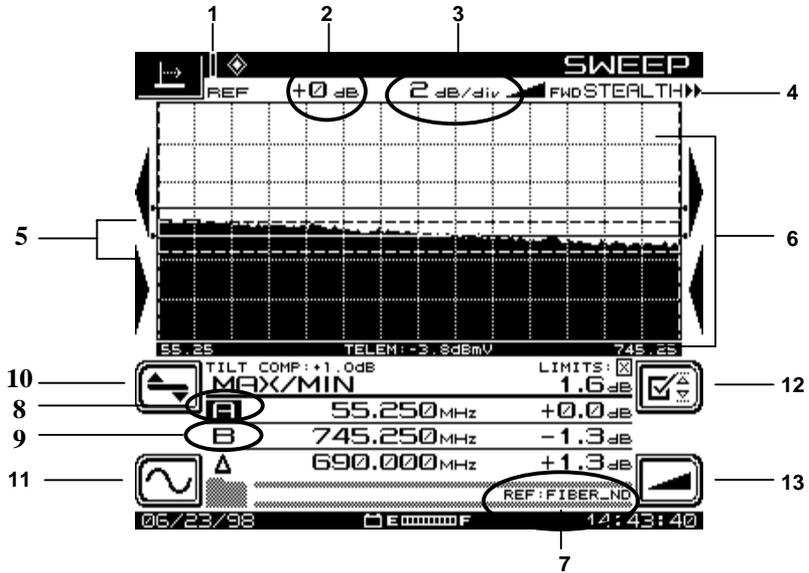

Fig. 4-10 The SWEEP Screen
- **Show Horizontal Markers:** The horizontal markers continuously track maximum and minimum values in the area of the graph between the vertical markers (see Fig. 4-10). Use the up and down diamond keys to display the markers.
The Sweep function has four operating modes, Stealth, Transmit, Loopback, and Sweepless. The current sweep mode is indicated in the upper right-hand corner of the screen (see Fig. 4-10). The Stealth mode allows sweep insertion points to be injected in vacant spectrum areas. The Loopback mode enables you to perform a rough frequency response, gain, and loss test on active and passive devices in the field. The Sweepless mode only measures actual system carriers. Any system carrier can be used as a data point, even scrambled or digital carriers. In either mode, a previously stored response can be used as a reference to the current measurement. Sweep references are selected in the File setup menu (see “Sweep References” in Chapter 11, page 201). The Transmit mode operates the same as the Scan mode with these exceptions: sweep telemetry is transmitted, sweep points are injected, and sweep point levels are displayed (see “Scan Measurements” in Chapter 6, page 115).
You can get to the SWEEP screen (see Fig. 4-10) through the NAVIGATOR or by pressing the SWEEP measurement mode key under lower right corner of the screen.
Call up the frequency screen from the SWEEP screen (Fig. 4-10) by pressing the soft key in the lower left corner.
-  Call up the level screen from the SWEEP screen (Fig. 4-10) by pressing the soft key above the Frequency Submenu icon.
Call up the limit screen from the SWEEP screen (Fig. 4-10) by pressing the top soft key on the right side of the screen.
Call up the tilt screen from the SWEEP screen (Fig. 4-10) by pressing the bottom soft key on the right side of the screen.
NOTE: Many of the icons and other display features of the reverse SWEEP screen are identical to those shown in Fig. 4-10.
Call up the level screen from the SWEEP screen (Fig. 4-10) by pressing the soft key above the Frequency Submenu icon.